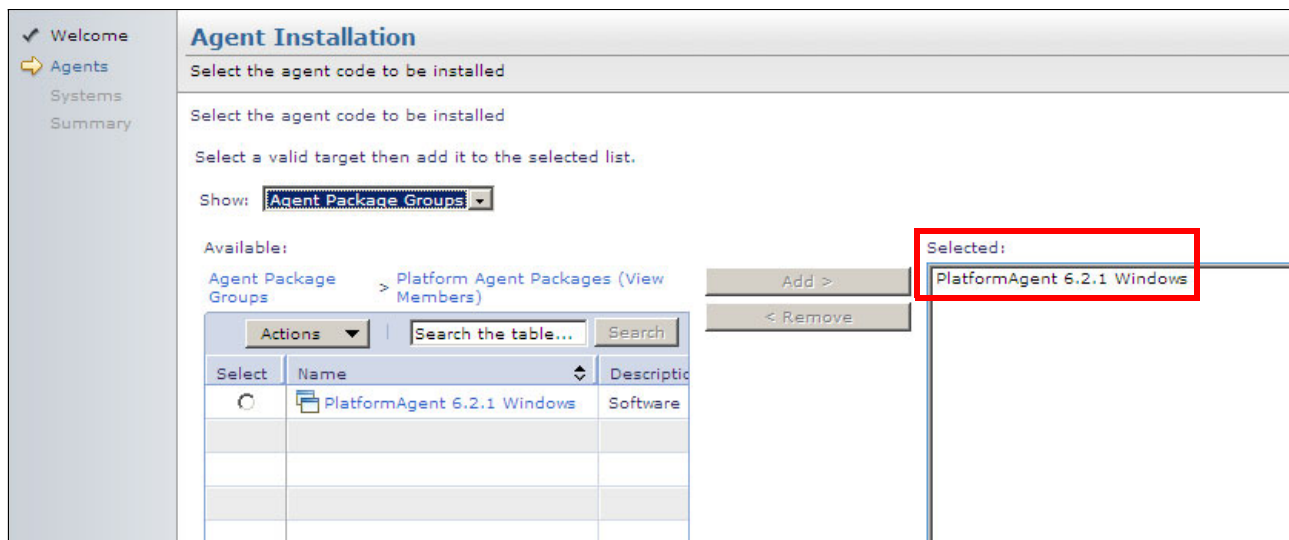

Figure 9-32 Selecting the platform agent to install onto Windows
13. Click the **Platform Agent Packages** group in the left pane and select the **PlatformAgent 6.2.1 Windows** package by clicking the radio box next to the agent. When deploying to a Linux or VMware ESX server, you need to select the PlatformAgent 6.2.1 Linux agent package. Click **Add**. Your selection options look like Figure 9-32.